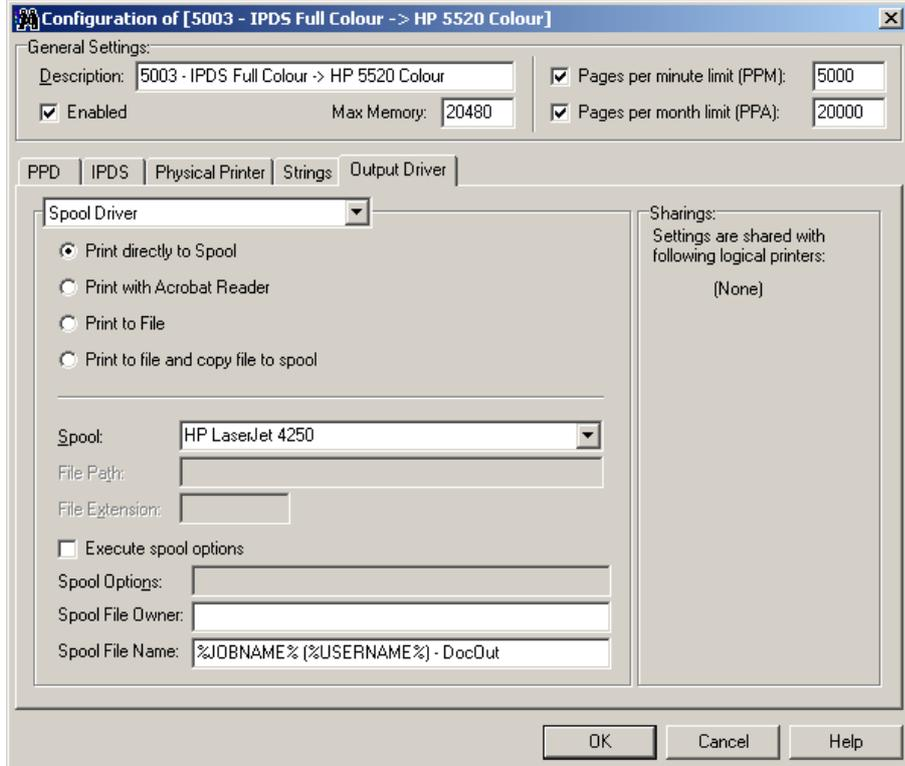

Figure 24
9. Click the **Output Driver** tab (Figure 24). Here, you can select the appropriate port driver from a dropdown menu. Choose between printing to spool (**Spool Driver**) or to a **TCP/IP Network Port Driver**. If you print to a spool driver, you can choose to send the output directly to the spool queue, to print PDF output, to print to a file or to print to file and copy to spool. According to your choice, the fields in the lower part of the dialogue will be ready for input. Click on **Help** for further information.